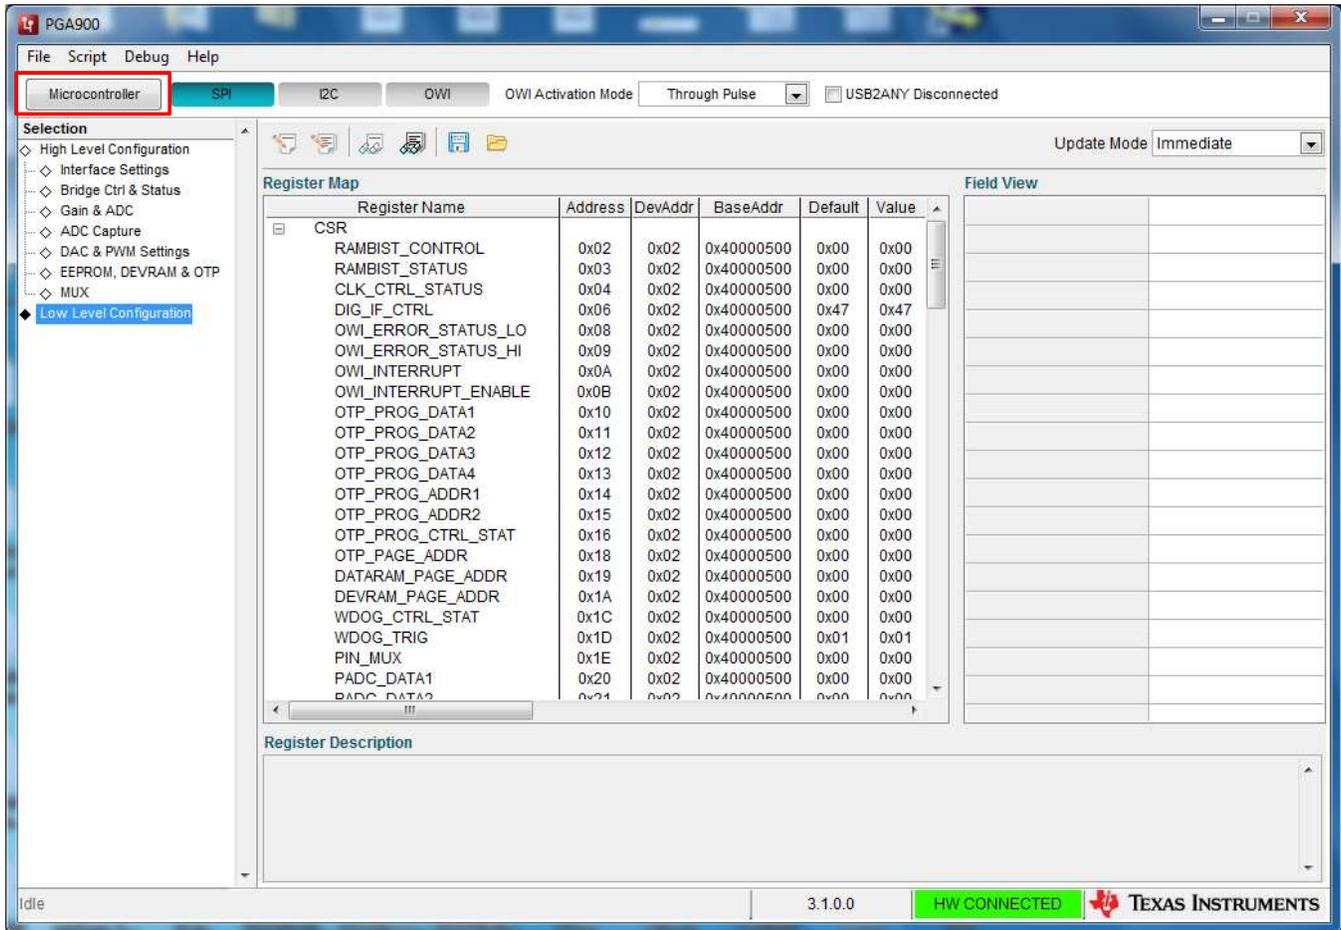

Figure 3. Setting the Microcontroller to Reset
- The microcontroller is running at power-up. Set the microcontroller in reset by clicking on the "Microcontroller" button as shown in Figure 3. The button will change to "Digital Interface" to indicate the different digital interfaces are enabled for communication with the device.